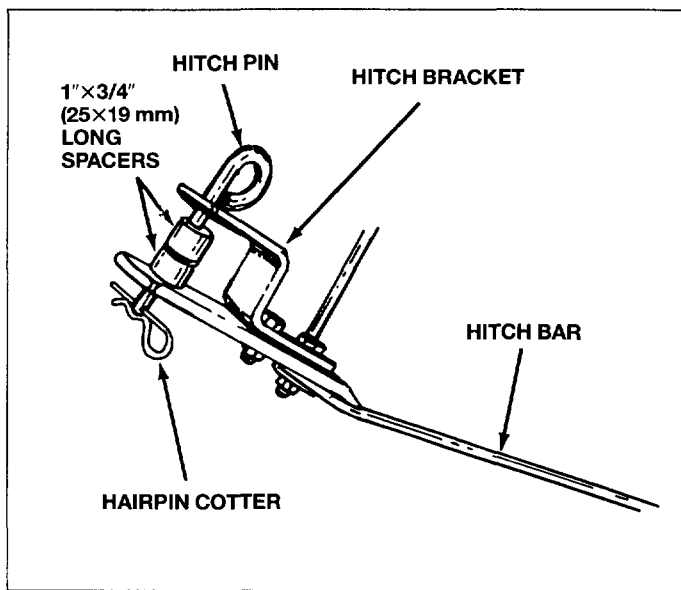

Fig. 11
- Assemble the hitch pin, two $1"$ Dia. $\times 3/4"$ (25×19 mm) spacers and hairpin cotter to the hitch bracket and hitch bar. See figure 11.